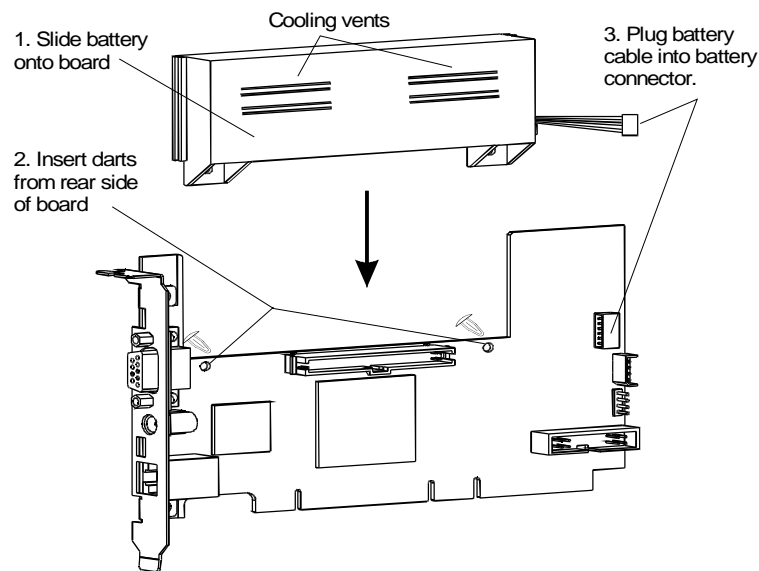

Figure 3-1. Connecting the Battery Pack and Cables
The battery pack must be mounted on the HP TopTools Remote Control card before the card is installed in the server. Note that the battery's sides are slotted so that it can slide onto the printed circuit board as shown in Figure 3-1.
2. With reference to Figure 3-1, the cooling vents on the battery pack should be on the same side as the board components. Be sure the battery cable is situated on the right and can easily reach the battery connector on the card.
4. Plug in the cable leading from the battery pack into the battery connector on the card (refer to Figure 3-1).